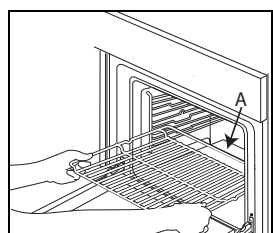

Fig.1
1. Insert the wire shelf horizontally, with the raised part "A" upwards (Fig. 1).